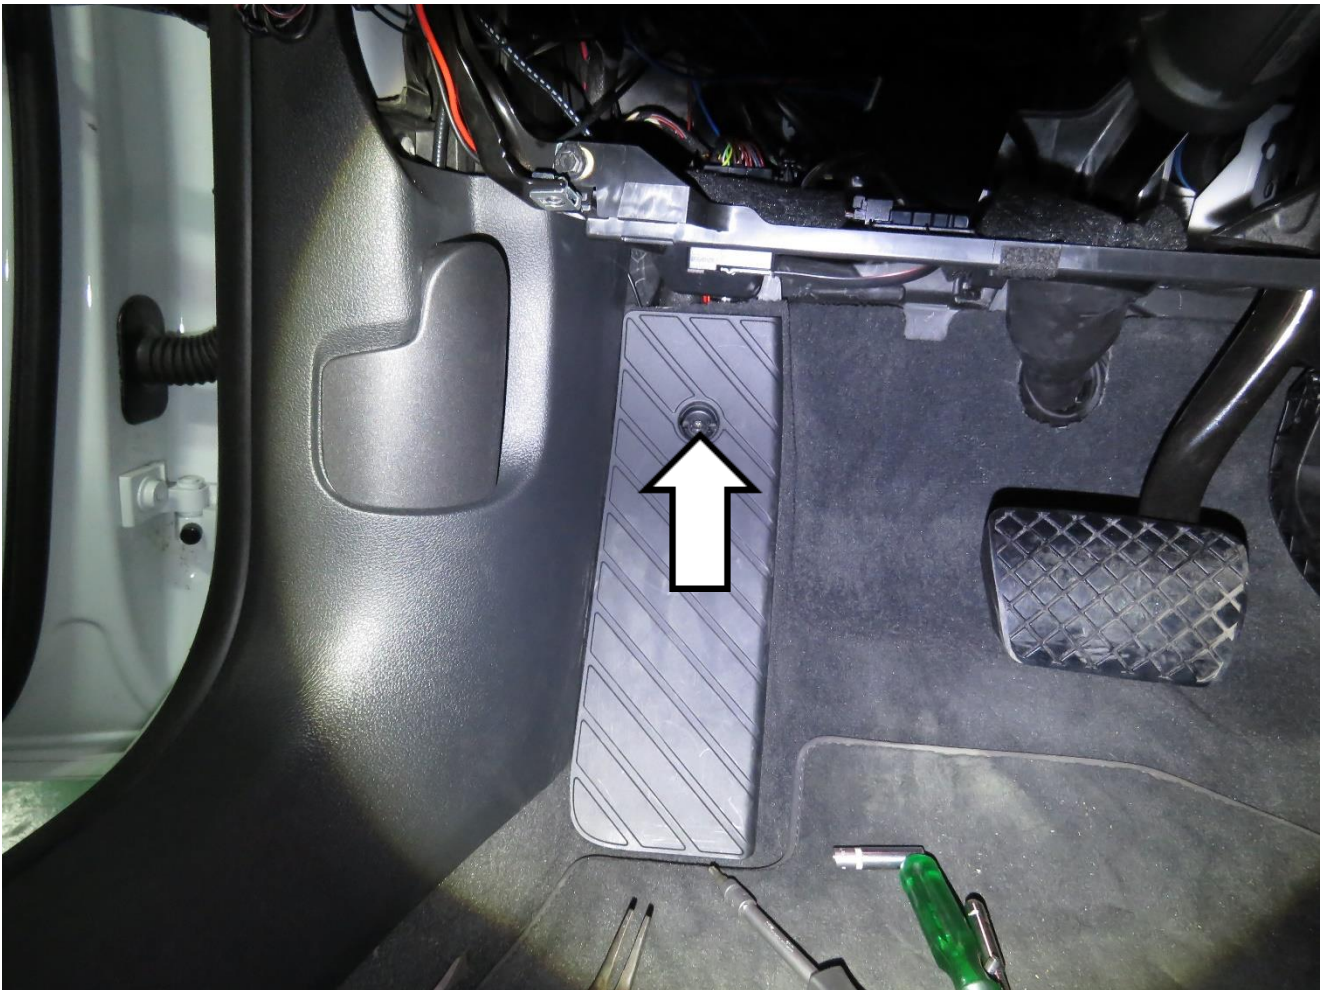

Figure 12
8. Remove the rest pedal, you can see the fuse holder, and connect the OBD controller power supply to the 15A fuse; the negative pole is the side trim of the vehicle (Figures 12, 13, and 14).